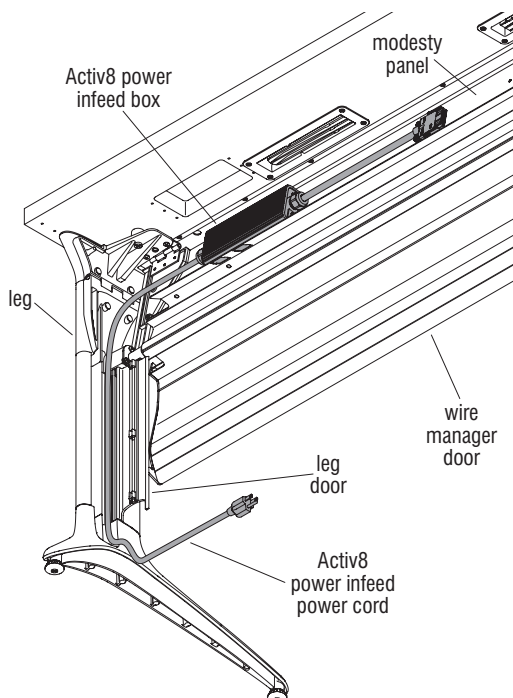

Figure 3
3. Place the Activ8 power infeed power cord into the channel of the leg, then close the leg door. Rest the Activ8 power infeed box against the modesty panel as illustrated (Figure 3).